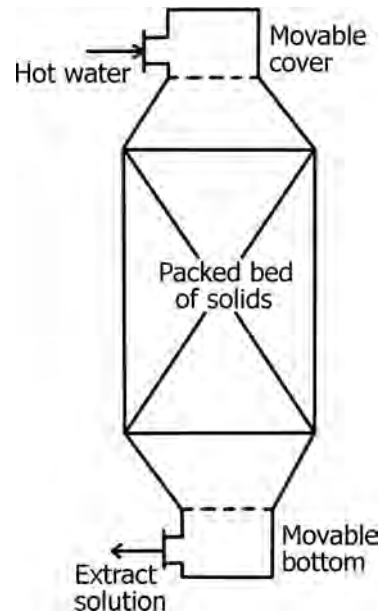

FIGURE 17.67 Diffuser for leaching process.
- Figure 17.67 illustrates such an extractor.